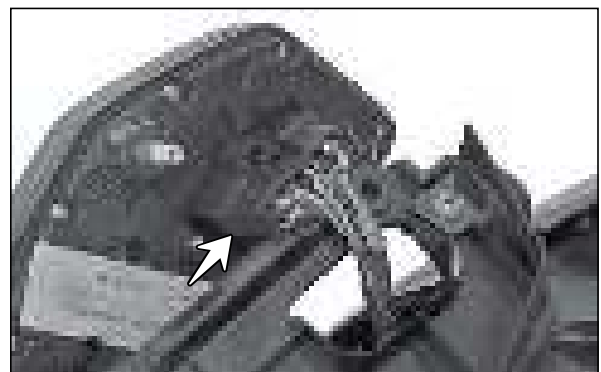

Fig. 5.83
- Disconnect coupler from the speedometer assembly by gently pressing the lock and take out the digital speedometer. (Fig. 5.83)